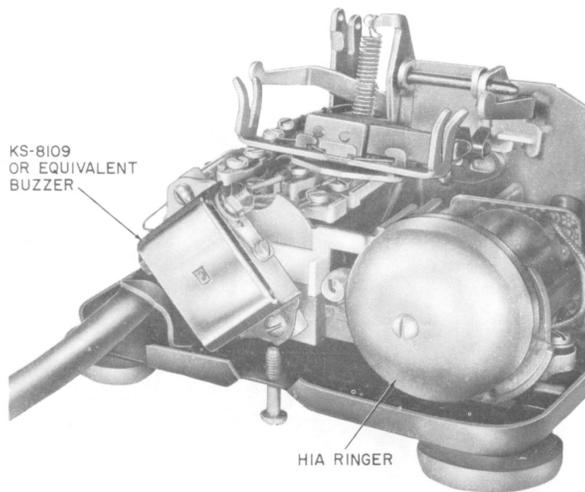

Fig. 8—Location of KS-8109L2 Buzzer
3.11 A KS-8109L2 or equivalent buzzer may be mounted to the bracket provided with a H1A ringer of the set (Fig. 8).